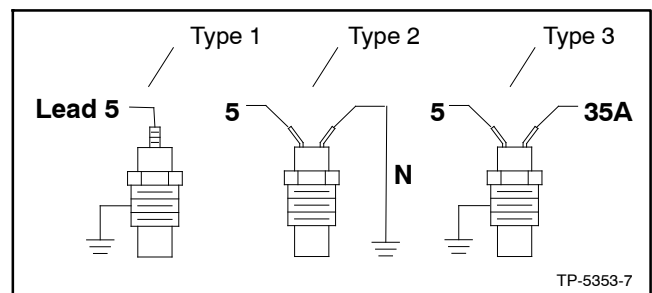

Figure 9-10 Coolant Temperature Sender, Typical
The coolant temperature sender has three configurations: (1) a single function, single-terminal type, (2) a single function, two-terminal type, and (3) a dual function, two-terminal type with temperature sender and low coolant temperature switch. See Figure 9-10.